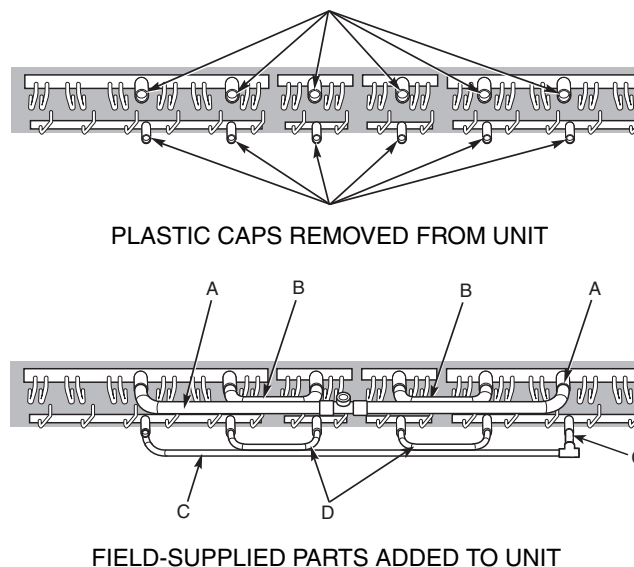

Fig. 12 — 09DK044 Unit with 100% Circuiting
1. Remove all plastic caps. Refer to Fig. 12.
2. Attach following parts as shown in Fig. 12. Perform phos-copper brazing on all field-made connections while protecting adjacent joints from heat.
- a. Construct one (1) gas tubing assembly (Item A), consisting of the following parts, and braze it into gas headers as shown: